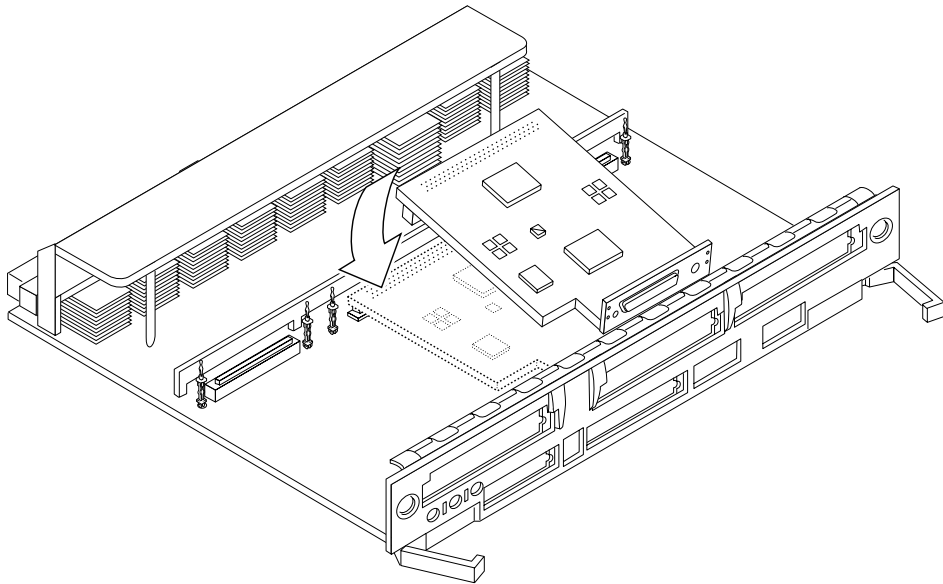

FIGURE 4-19 Removing or Installing a Graphics (UPA) Card
2. Locate the card (FIGURE 4-19).
6. Lift the card from the socket at an angle while guiding the face plate out from the back panel opening (FIGURE 4-19).